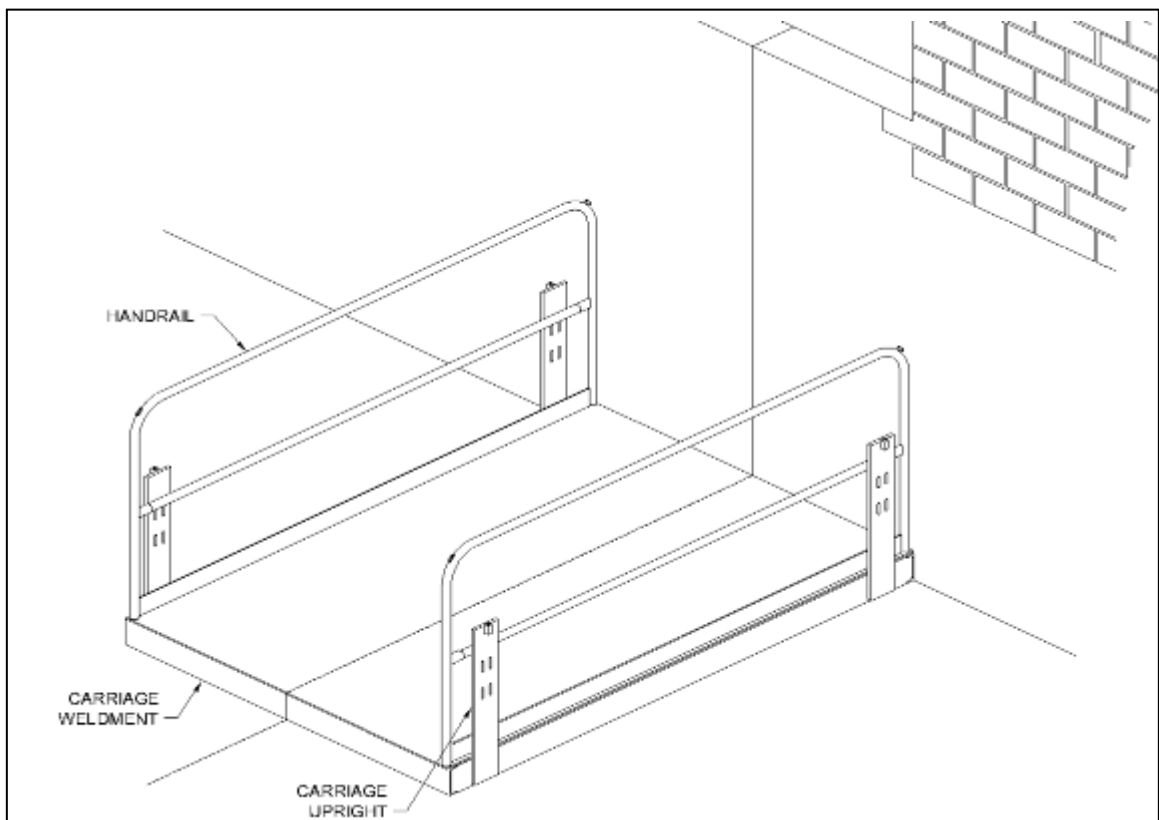

Figure 16 Aligning Carriage with Chalk Line
B. CARRIAGE ASSEMBLY (Reference Figures 16 through 18)
3. Set the carriage into the lower level position as shown on the General Arrangement (GA) Drawing. The center of the carriage must be aligned with the "B" mark (refer to **Figure 16**).